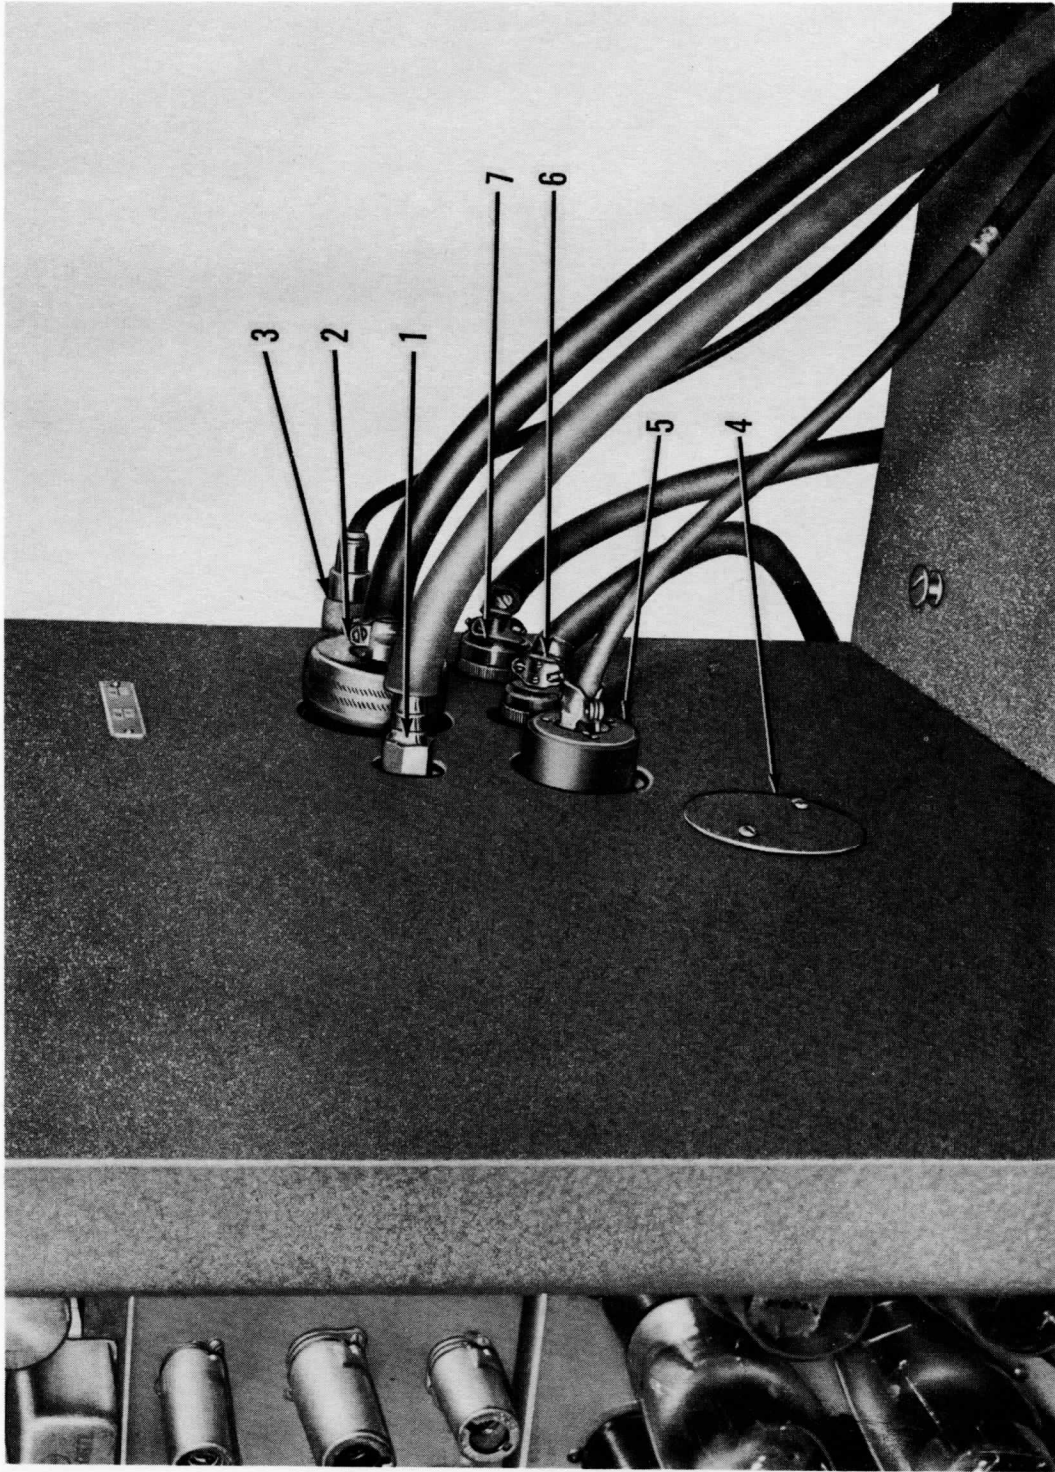

Figure 1-2. External Connections On Right End of Recorder
- Fig. 1-2. External Connections On Right End Of Recorder
a. All external connections are at the right end of the recording monitor console as viewed from the operating side (see figure 1-2).
Legend for Figure 1-2: